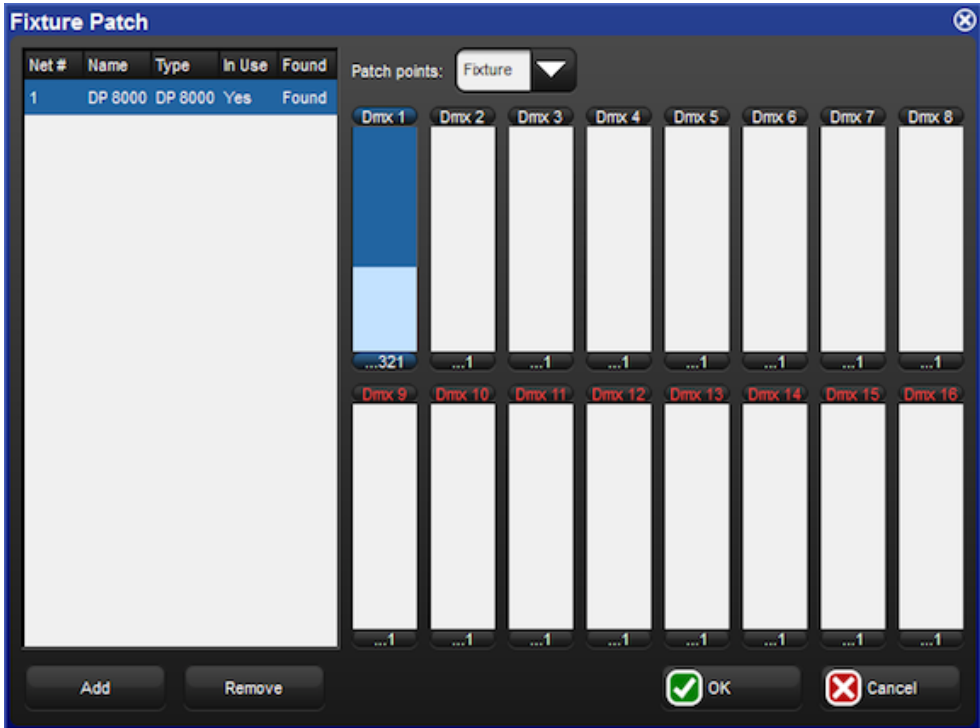

Figure 5.2. The Fixture Patch window
2. Select the fixture fixtures you wish to patch and then press the Patch @ button to open the Fixture Patch window. See *Figure 5.2, "The Fixture Patch window"*.